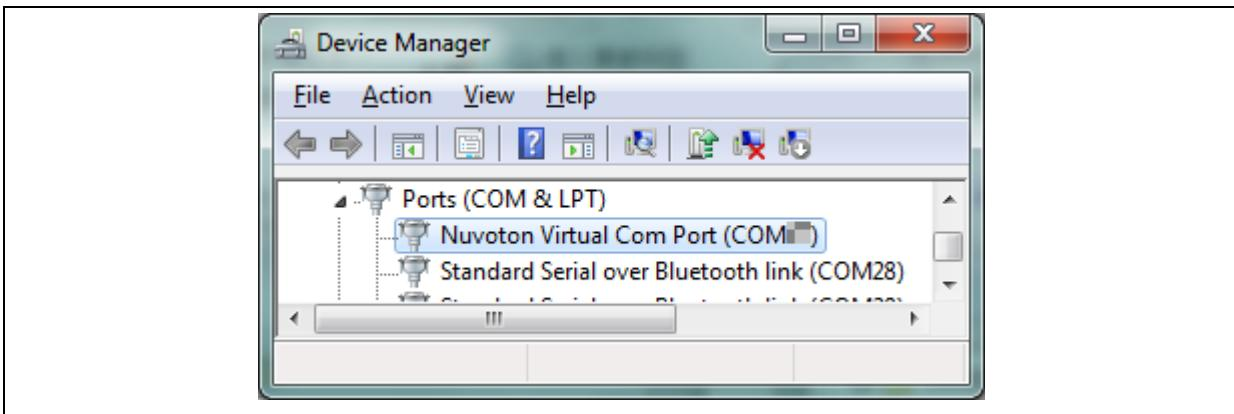

Figure 4-5 Device Manger
3. Find the “Nuvoton Virtual COM Port” on the Device Manager as Figure 4-5.